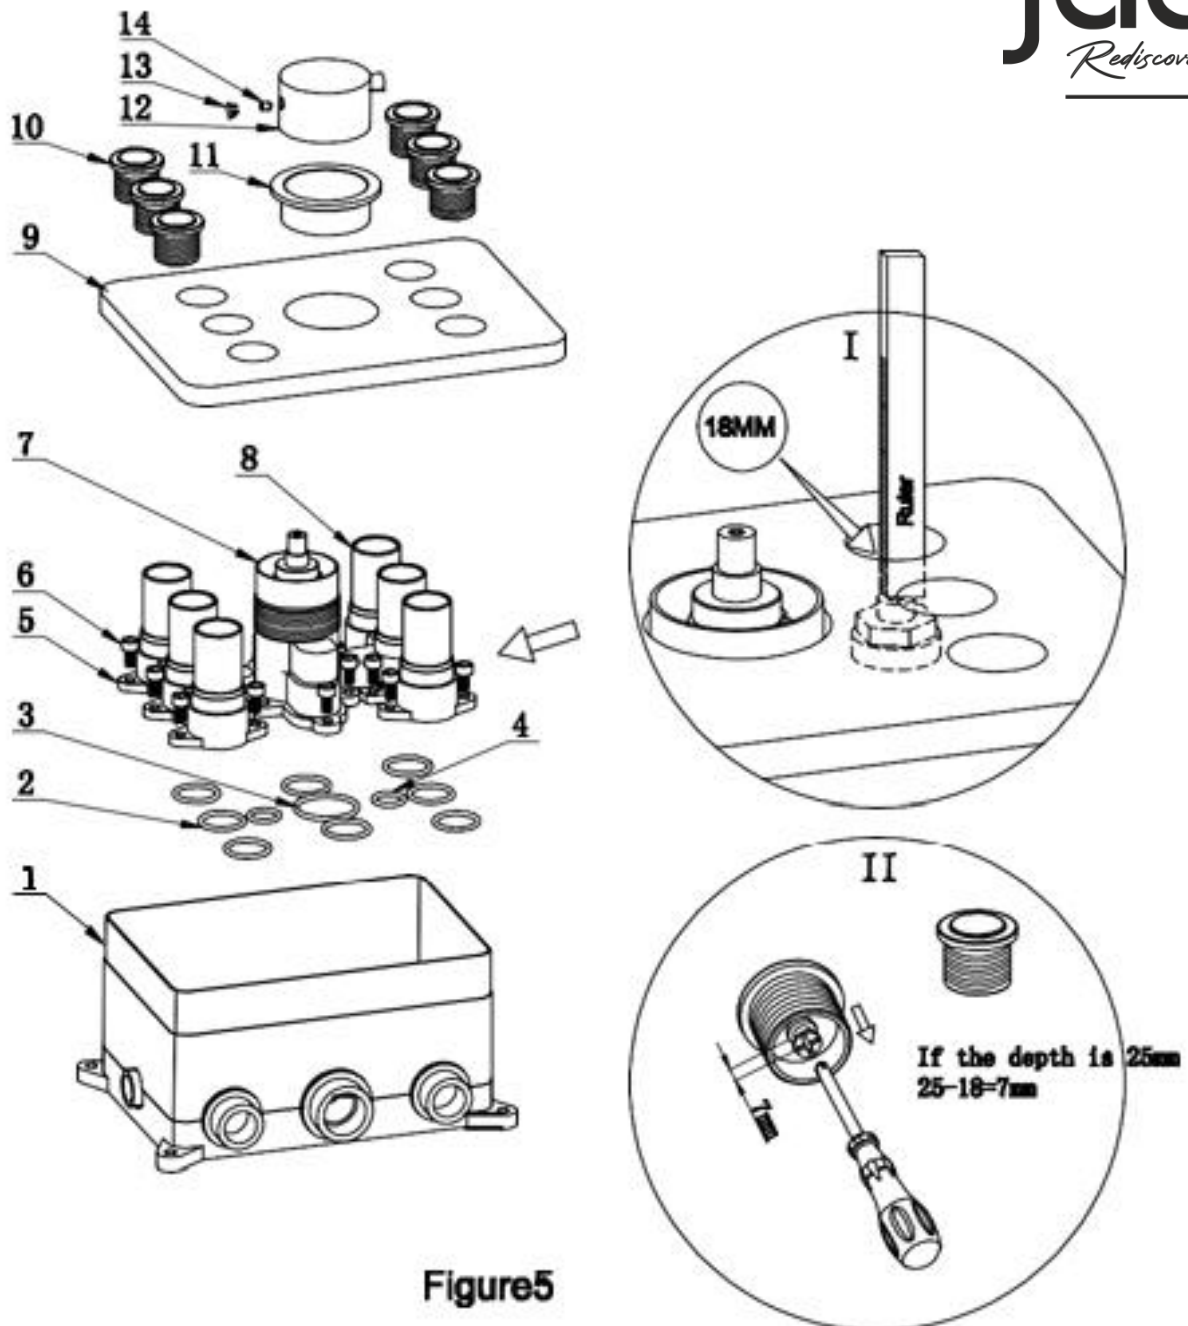

Figure5
- e) Based on the functions of the faucet outer pipe, install 5,7,8 on the faucet body (see figure 5)**